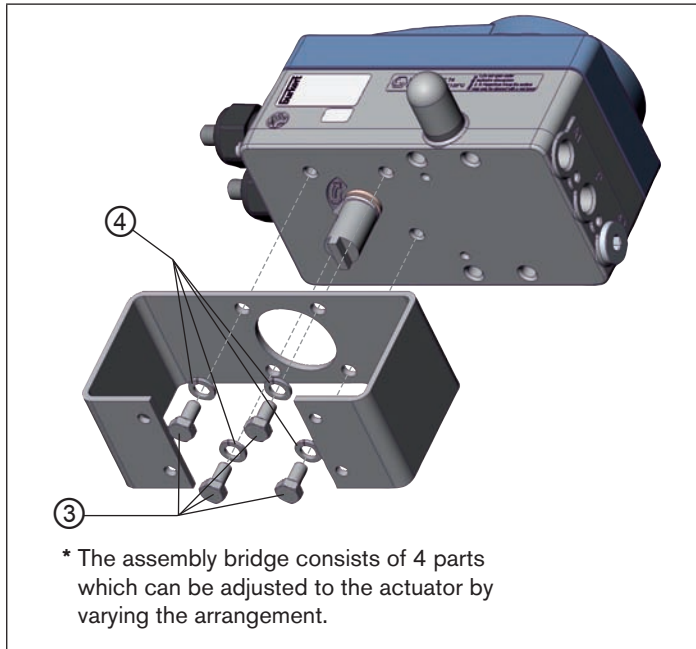

Fig. 13: Attach assembly bridge (schematic representation)
- Attach the assembly bridge to the Type 8792/8793 using 4 cheese-head screws ③ and circlips ④ (see „Fig. 13“).